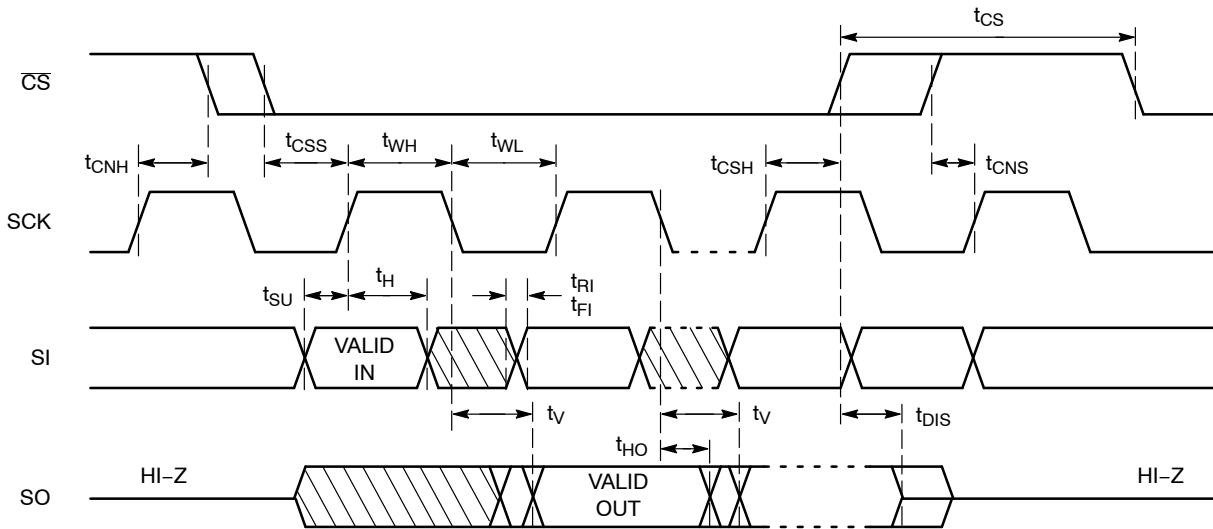

Figure 2. Synchronous Data Timing
7. tWC is the time from the rising edge of CS after a valid write sequence to the end of the internal write cycle.8. **All Chip Select (CS) timing parameters are defined relative to the positive clock edge (Figure 2). tCSH timing specification is valid for die revision E and higher. The die revision E is identified by letter “E” or a dedicated marking code on top of the package. For previous product revision (Rev. D) the tCSH is defined relative to the negative clock edge.**
After a high to low transition on the  $\overline{\text{CS}}$  input pin, the CAT25640 will accept any one of the six instruction op-codes listed in Table 9 and will ignore all other possible 8-bit combinations. The communication protocol follows the timing from Figure 2.